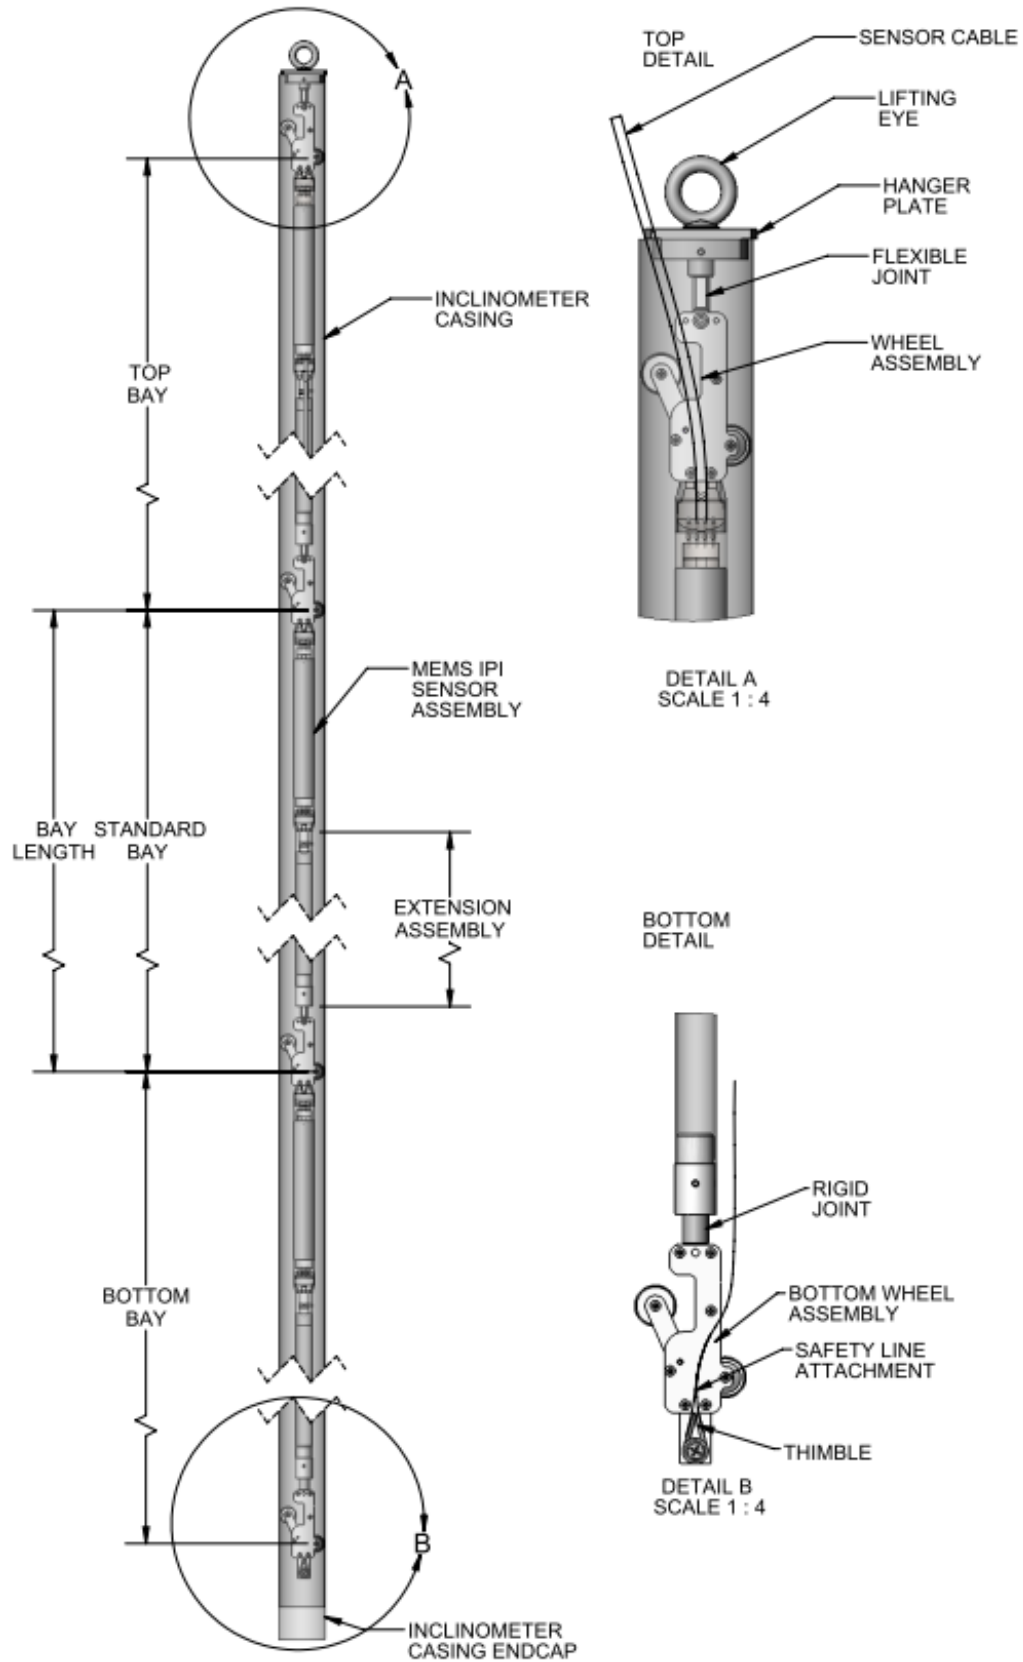

FIGURE 2-2 MEMS IPI GENERAL ARRANGEMENT
- 3 Attach a safety line to the bottom wheel assembly. Refer to Figure 2-2.